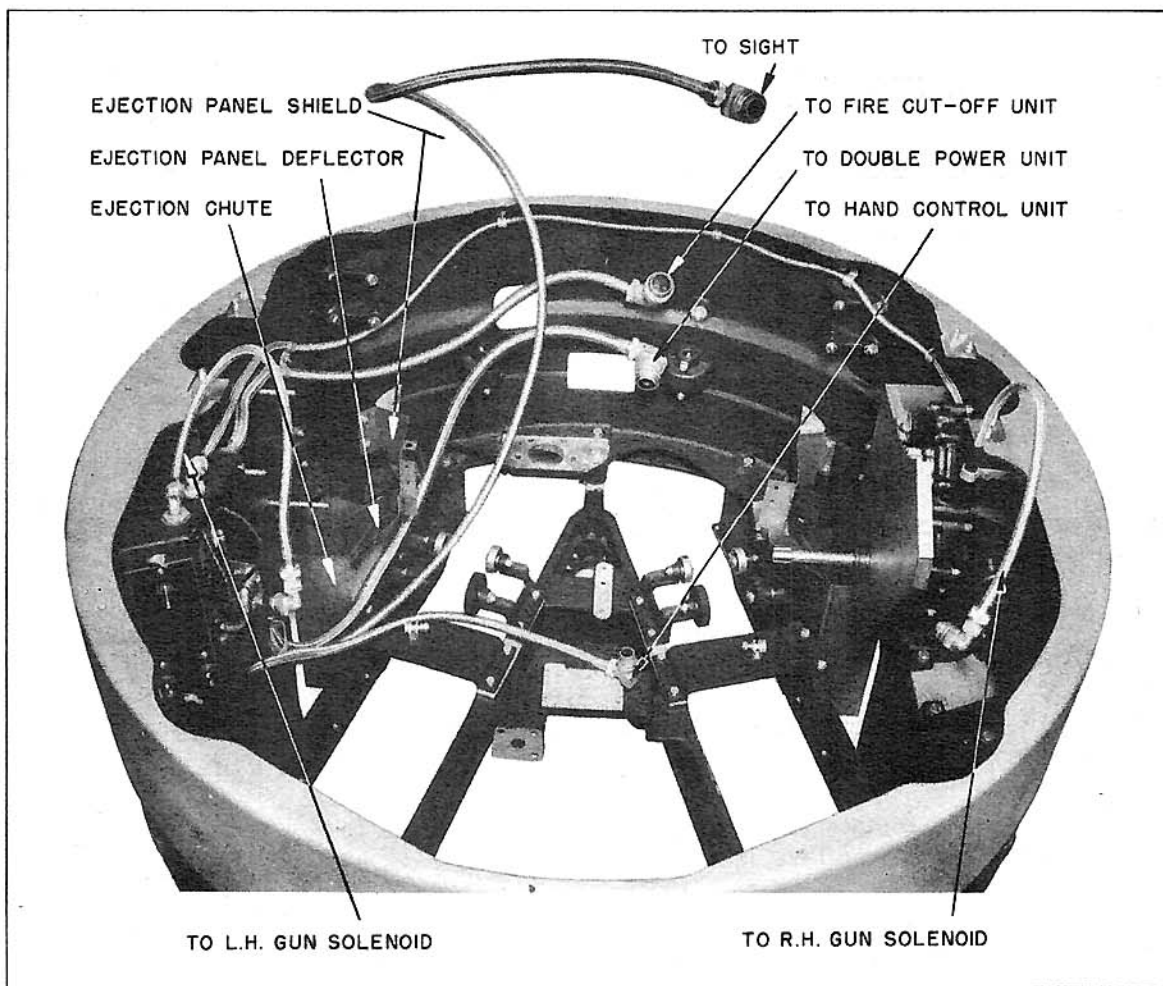

FIGURE 43
(1) Routing of Electrical Conduits. - (a) Distribute the electrical conduits in the turret housing as shown in Figure 43.
(2) Support Leads to Main Switch and Junction Box. - (a) Insert leads from unit housing support through spacer and locknut into main switch and junction box (see Figure 34) and place switch box in position in the unit housing. (See Figure 43.)
(d) Insert wires and fittings of right and left gun solenoids and tighten locknut. Put right gun solenoid conduit in brackets around top of unit housing as shown in Figure 43. Clamp it to fire cut-off and limit stop unit conduit.